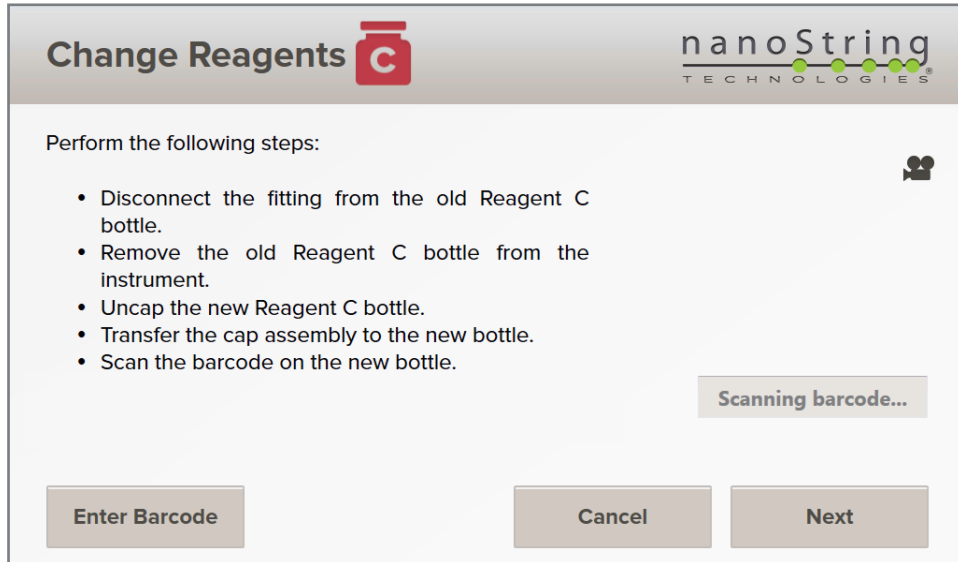

FIGURE 7.12 The Change Reagent screen for Reagent C (red bottle).
13. Press **Next** to reset the waste bottle level and check the connection. When it is finished, the Change Reagents screen for Reagent C (red bottle) will appear (**FIGURE 7.12**).